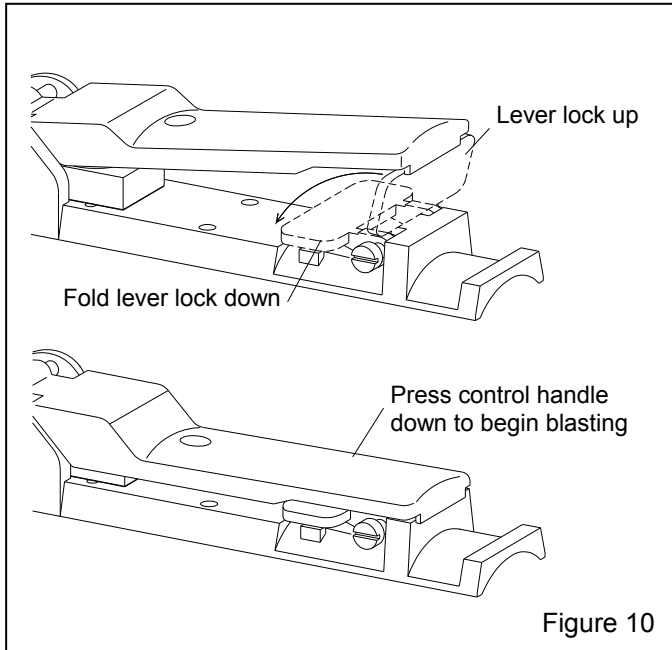

Figure 10
3.4.3 Fold down the safety lever lock and press the remote control handle as shown in Figure 10. Within a few seconds, the pop-up valve will automatically close, and the blast machine will pressurize to start blasting.